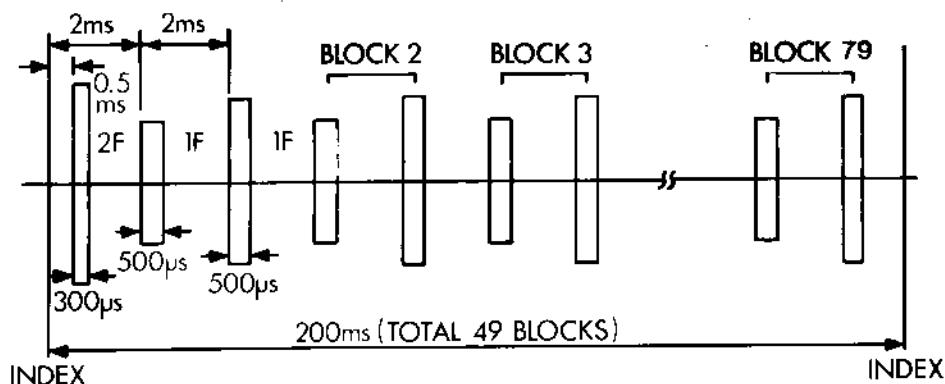

Fig. 1 Waveform of T39, 119 (Servo pattern)
1. Radial adjustment by use of Track 39, 119. Fig.1.	<input type="radio"/>